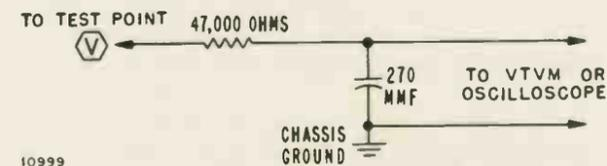

Figure 21. Decoupling Filter.
- Be sure that a decoupling network is used at the video detector output and that the leads on the network are kept as short as possible; see figure 21.
- Connect VTVM high side to test point "V" through a decoupling filter, see figures 21, 24 and 25.